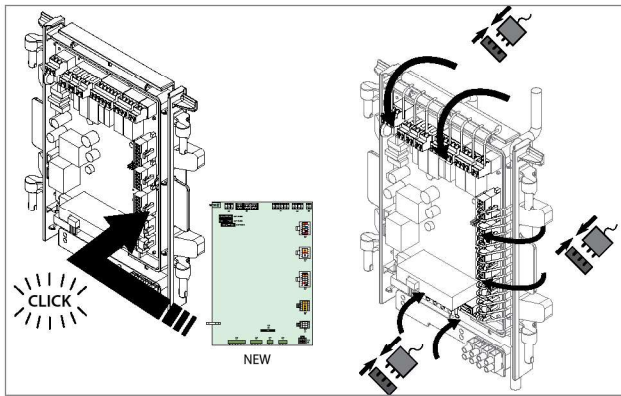

Fig. 10 - Prestige Solo & Excellence - Installation of new PCB
4. Install new circuit board, making sure it is secured in the retaining clips (See Fig. 10).